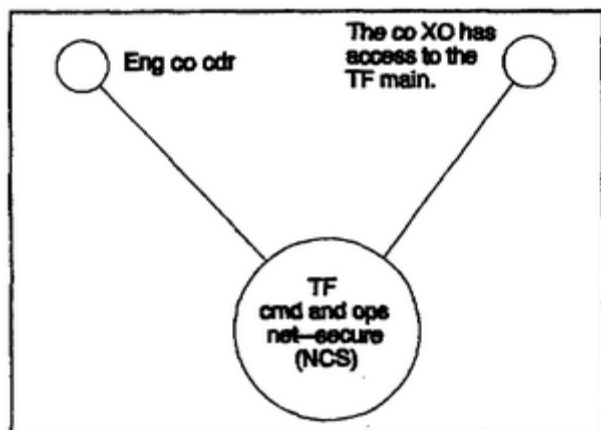

Figure 3-7. TF command and operations net-secure.
- (c) TF command and operations net--secure (Figure 3-7, page 3-10).